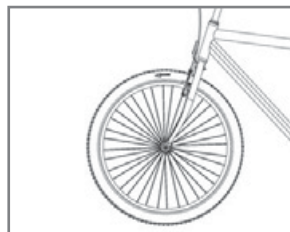

Fig. 3. Wheel installation
4. Place the wheel in the hooks of the fork, set the wheel equally in the vertical axis of the fork, tighten the nuts with moments defined in this instruction remembering that the groove of the front wheel should run according to the direction of rotation indicated on the tyre. Fig. 3.